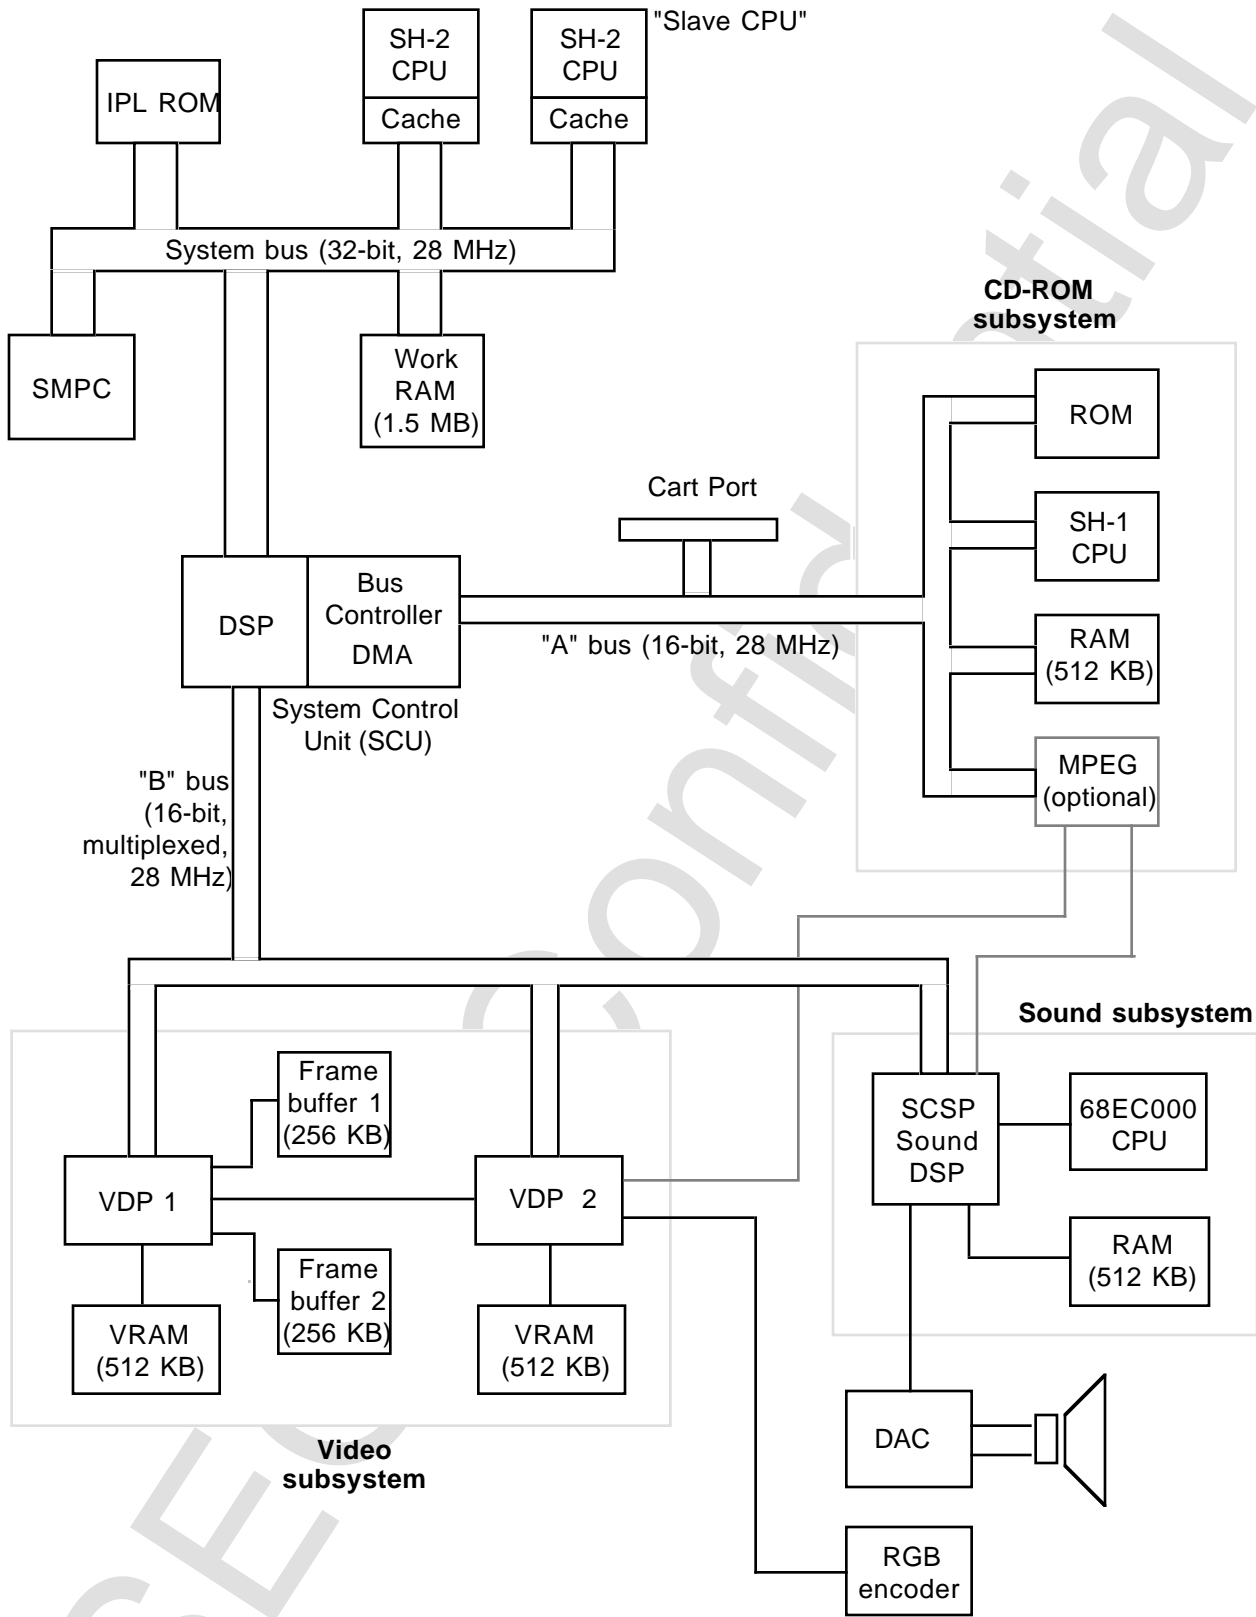

Fig. 1-1 Saturn block diagram
Figure 1-1 shows the three buses and major components of the Saturn system, including the following:
- **SH-2 CPUs.** The main processor is a 28-MHz Hitachi 32-bit RISC chip (SH-2) that uses a second SH-2 as a “slave CPU” to speed processing of calculations such as matrix transformations. Both SH-2s have access to 1.5 MB of synchronous DRAM (labeled Work RAM in Figure 1-1).